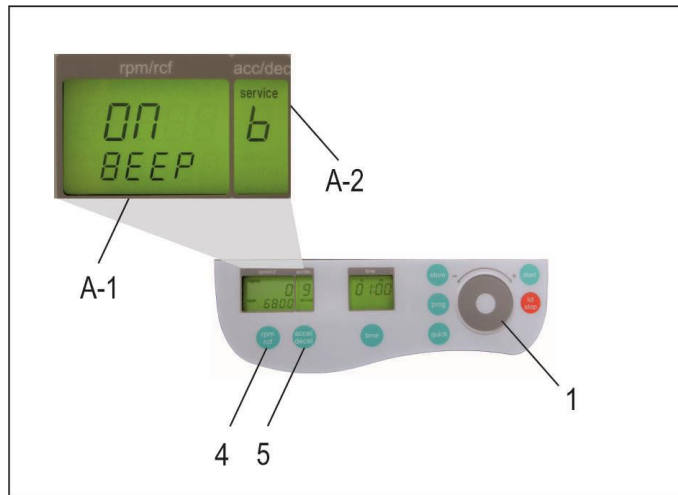

Figure 4
Proceed as illustrated, under point 1.8.2, to enter this program mode, press the key, "accel/decel" (5). In the display, "accel/decel" (A-2) flashes the word, "service". Select the letter "b" with the control field (1). As a result, appearing in the display, "rpm/rcf" (A-1), the word "ON/BEEP". After pressing the key, "rpm/rcf" (4), turn the keyboard sound (On) or (Off), with the rotary field (1), (see Figure 4).